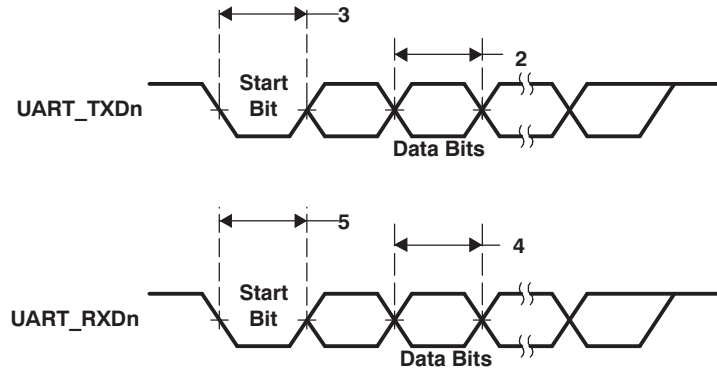

Figure 5-35. UART Transmit/Receive Timing
**Table 5-26. Timing Requirements for UARTx Receive (see Figure 5-35)**
**Table 5-27. Switching Characteristics Over Recommended Operating Conditions for UARTx Transmit (see Figure 5-35)**